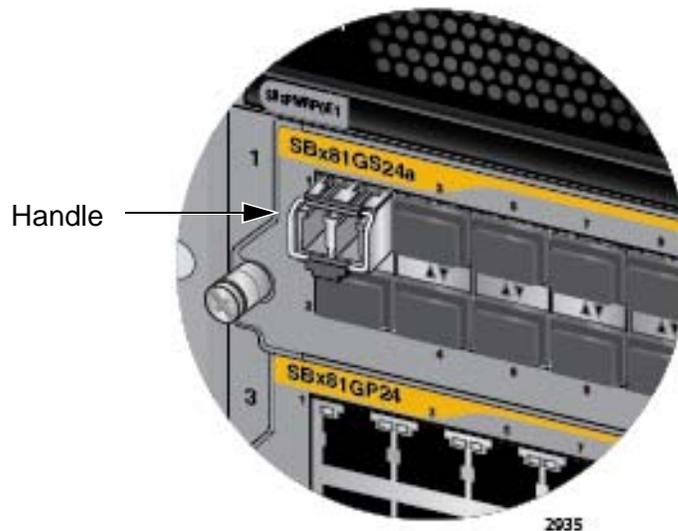

Figure 98. Verifying the Position of the Handle on a Transceiver
5. Before connecting the cable, verify the position of the handle on the transceiver. The handle should be in the up position if the transceiver is in the top row on the line card, as shown in Figure 98, or the down position if the transceiver is in the bottom row.